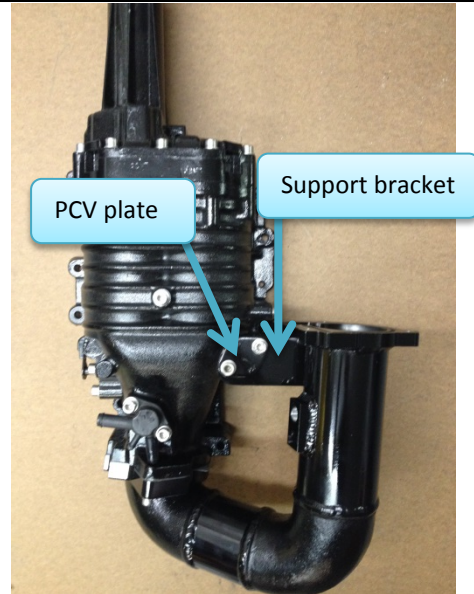

Figure 39: Supercharger intake EGR, sits on passenger side.
- 34.9.2. Ensure adapter fitting is tight on plate and facing up as shown in Figure 39